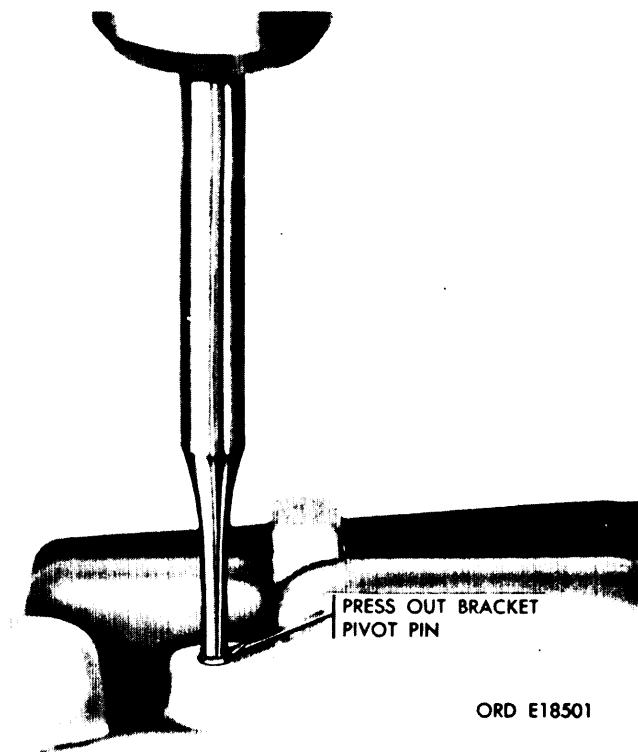

Figure 3-68. Removing bracket pivot pin.
(1) Inspect the governor housing (E) and governor end cap (Q) for cracks and distortion. Replace any part that is cracked or distorted. Examine the gasket surfaces of these parts for scratches, nicks, burs; etc. Repair minor damage with crocus cloth or fine mill file and replace any part that is not repairable.
(2) Check the bracket pivot pin (T) against the limits specified in the repair standards (para 3-60) and replace the pin, as shown in figure 3-68 and 3-69 when it does not meet these requirements.